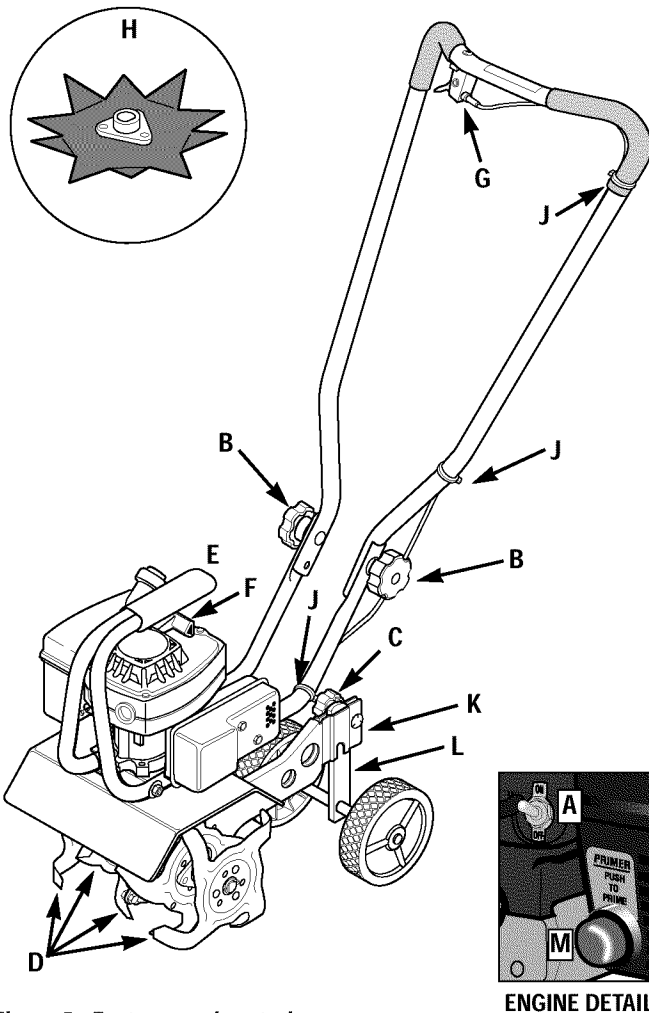

Figure 5: Features and controls.
The Border/Edger Attachment (H, Figure 5) does not need to be installed until you are ready to do edging projects (refer to instructions in this Section).
Handlebar Height Adjustment Knob (B, Figure 5)
Tilling Depth Adjustment Knob (C, Figure 5)
Adjustable Tine Patterns (D, Figure 5)
Carrying Handle (E, Figure 5)
Edger Attachment (H, Figure 5)
Engine On/Off Switch (A, Figure 5)
Throttle/Tines Lever (G, Figure 5)
Engine Recoil Start Rope (F, Figure 5)
Fuel Primer Bulb (M, Figure 5)
3. Check the three plastic cable ties (J, Figure 5). Be sure that cables and ties are positioned as shown. Do not kink or pinch the control cables in the handlebar.
To stop the engine, move the engine On/Off Switch (A, Figure 5) to the OFF position.